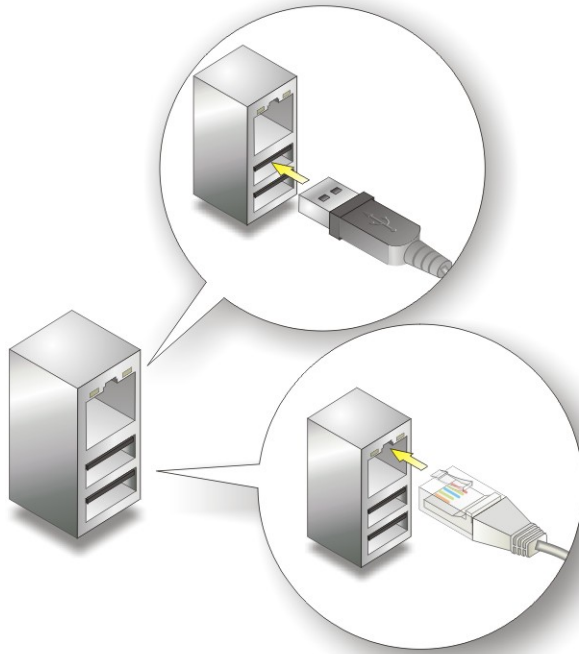

Figure 4-16: LAN Connection
Step 3: Insert the LAN cable RJ-45 connector. Once aligned, gently insert the LAN cable RJ-45 connector into the onboard RJ-45 connector. See **Figure 4-16**.
Step 4: Insert a USB Series "A" plug. Insert the USB Series "A" plug of a device into the USB Series "A" receptacle on the external peripheral interface. See **Figure 4-16**.